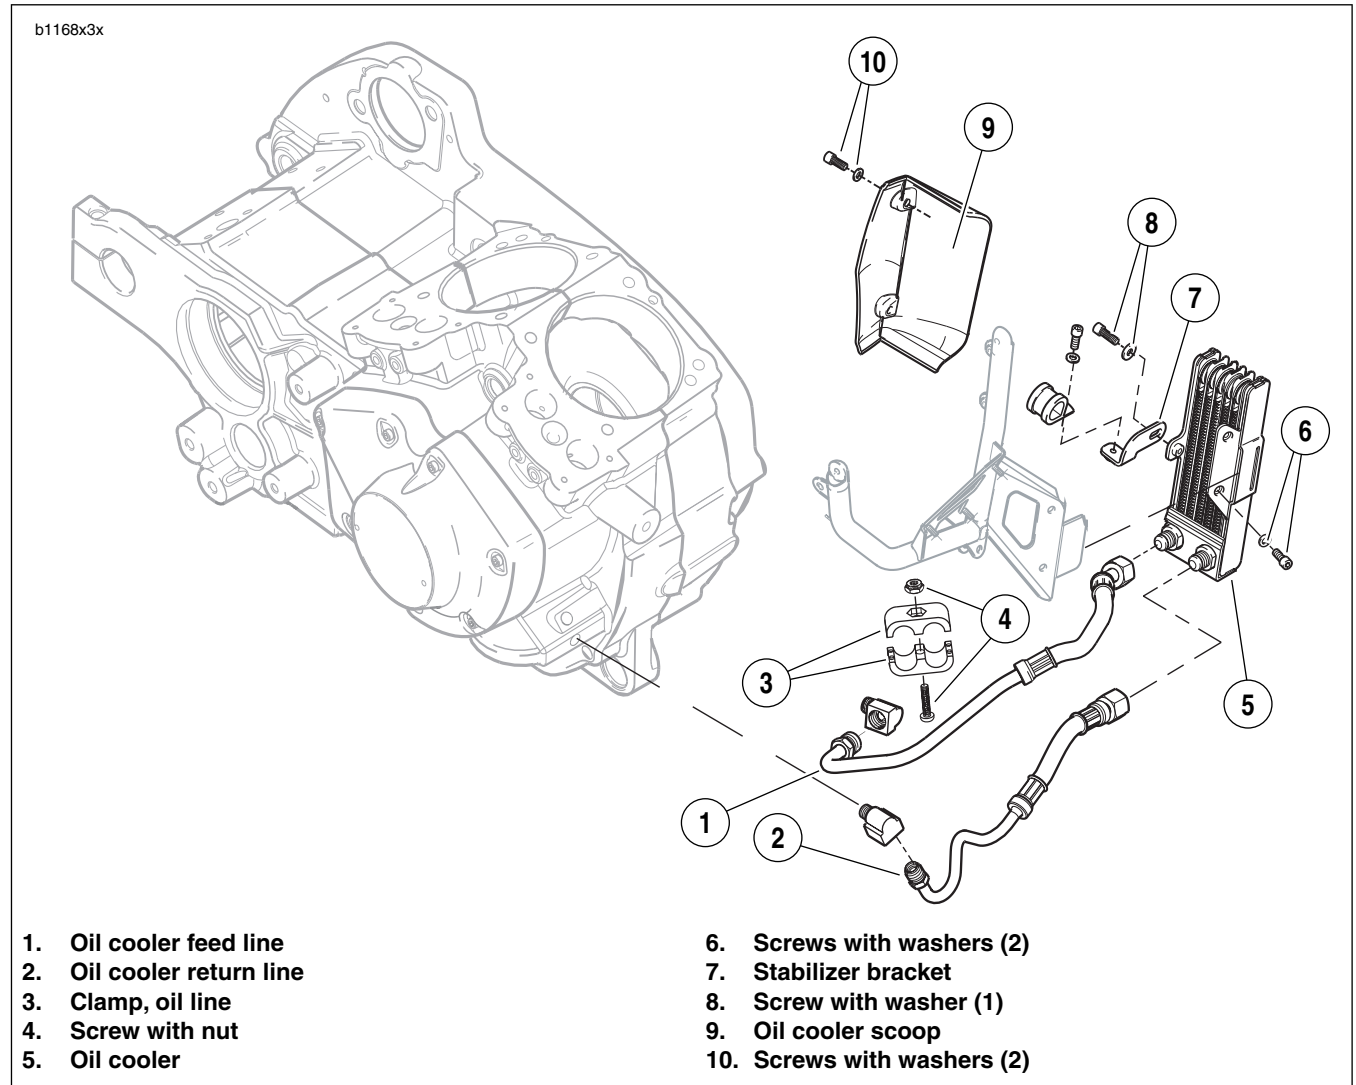

Figure 3-111. Oil Cooler
See Figure 3-111. The XB9/12 models are equipped with a factory installed oil cooler.
1. See Figure 3-111. Lightly coat the threads of the oil cooler fittings with clean H-D 20W50 engine oil. Wipe off any excess oil.